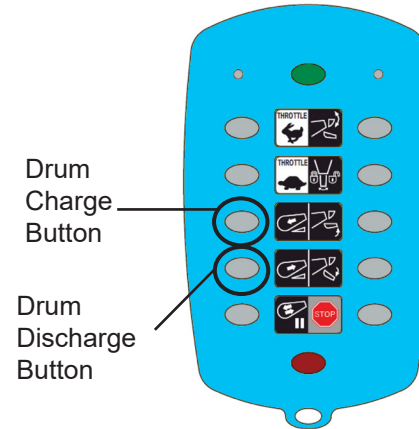

Figure 42
3. Press the appropriate button, either Charge (Figure 42) or Discharge (Figure 42), on the OMNEX Wireless Transmitter.